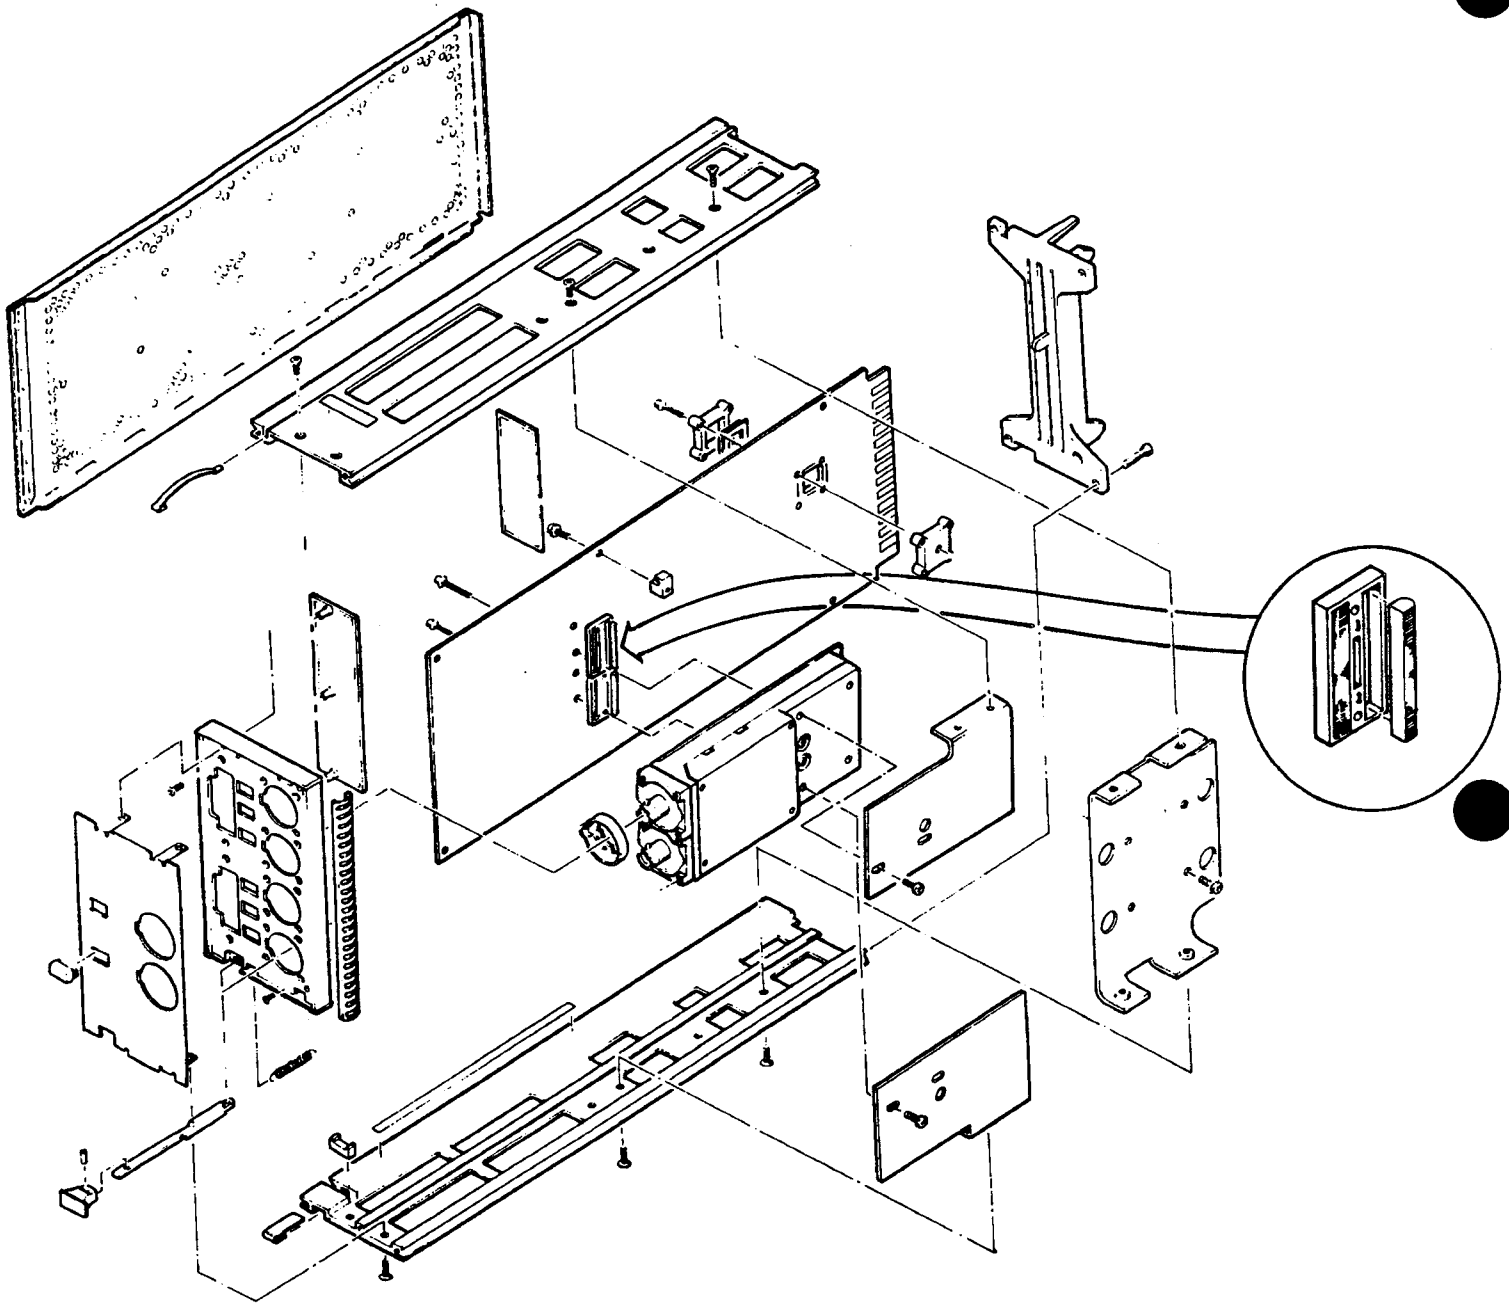

Figure 1: 11A32/11A34 Exploded View.
- Step 6:** Separate the front panel from subpanel. Use the two (2) large holes located in the subpanel casting to push the front panel out away from the instrument. Be careful not to bend or damage the front panel during this separation.
- Step 7:** Remove the four (4) Torx drive screws that secures the heatsink brackets to the top and bottom frames using a T-9 Torx screwdriver. Remove the four (4) Torx screws that secure the heatsink brackets to the attenuator, using a T-10 Torx screwdriver, then remove the heatsink brackets from the instrument.
- Step 8:** Remove the four (4) Torx screws that secure the attenuator to the Main circuit board using a T-9 Torx screwdriver. The screws are located on the front (component) side of the Main circuit board.
- Step 12:** Remove the six (6) Torx drive screws T-6 that secure the attenuator to the front subpanel. **Use a T-6 Torx drive tip only, any other size may damage the screw drive system.**
- Step 15:** Install the four (4) new MOE strips that are provided in this kit, placing the strips in the holders. The exposed elastomer side of the MOE strips face towards the center of the holders, refer to Figure 1.